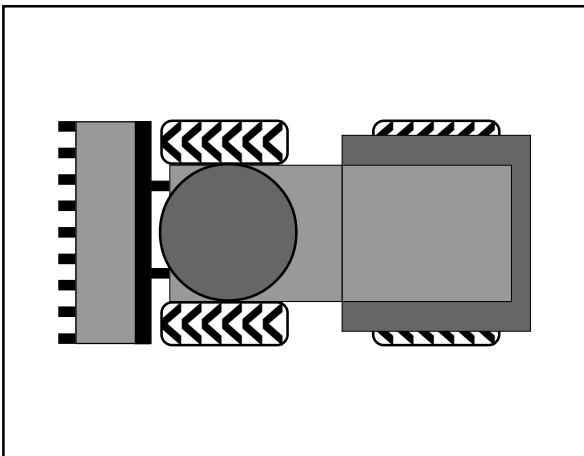

Figure 4-4
- All four tyres must be the same size and have the same PR rating (PR = ply rating: number of textile plies). For the running direction, if it exists, see Fig. 4-4.
- (14) Tighten the wheel nuts by hand.
- (15) Lower the front/rear axle using the jack.
- (16) Tighten the wheel nuts to 600 Nm with a torque wrench.